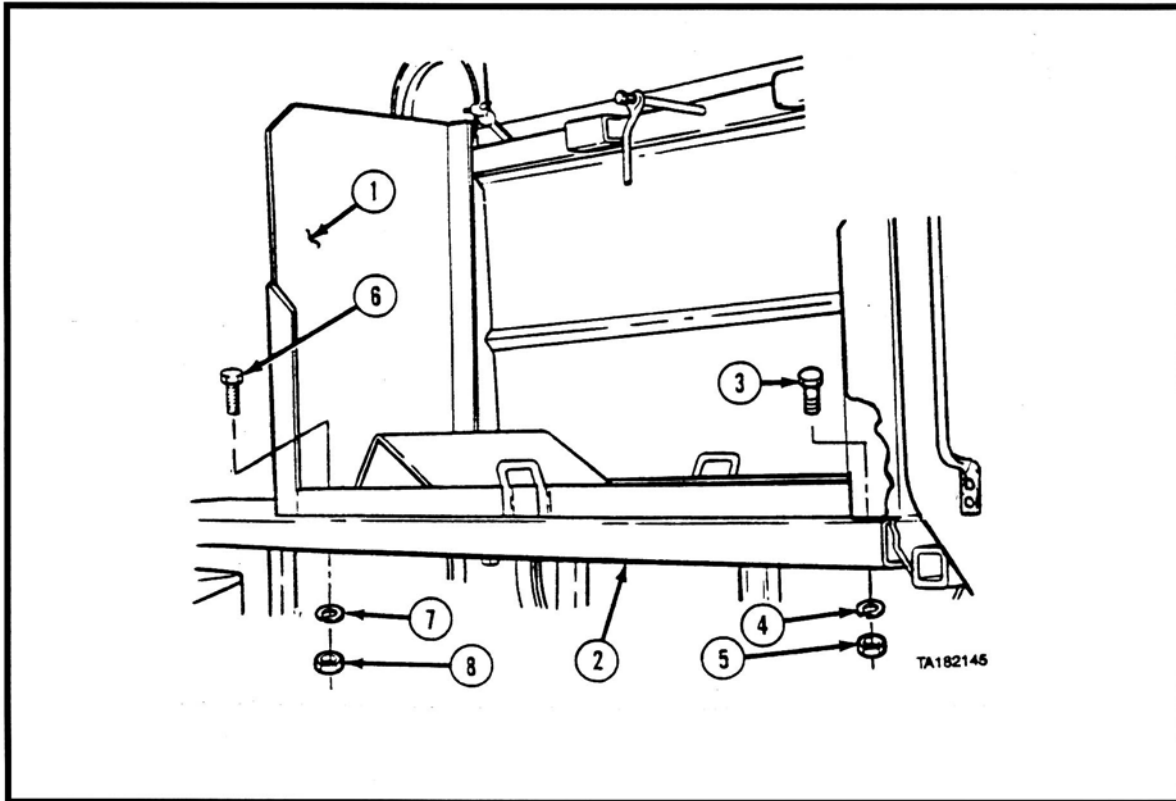

Figure 34. Re-install the Tire Carrier.
1. Position the Tire Carrier (see Item 1 in Figure 34) on the fender (2).
2. Install two screws (3), two lockwashers (4), and two nuts (5).
3. Install two screws (6), two lockwashers (7), and two nuts (8) on the tire carrier (1) and the fender (2) as shown.
4. Torque the screws (3) to 80 ft-lb.